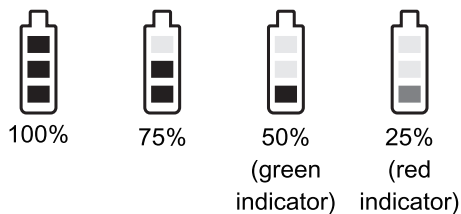

Fig. 31
- (B) Power on: Press the power button and battery and AF indicators light up.
- (C) Power off: Press the power button for two seconds and battery indicators are off.
- (D) Battery level indicators. Recommend charging or replace a fully-charged battery when single red indicator remains. Power shutdown automatically when battery voltage is too low, Fig. 31.